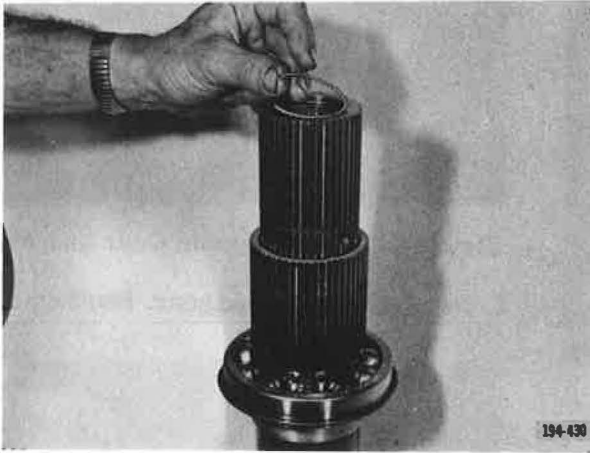

Figure 5-749. Removing Snap Ring
1. Remove rear mainshaft front bearing retaining spirolox snap ring. See Figure 5-749.